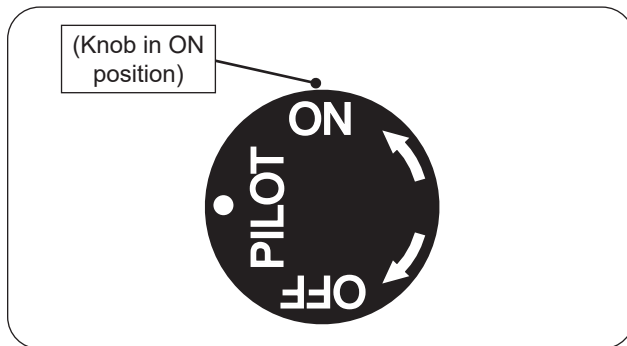

Fig. 24-1 Manual lighting
1. Ensure the pilot is burning. Turn the control knob counterclockwise ↶ to **ON** to ignite the burner (see Fig. 24-1). The valve will open and the burner will light.